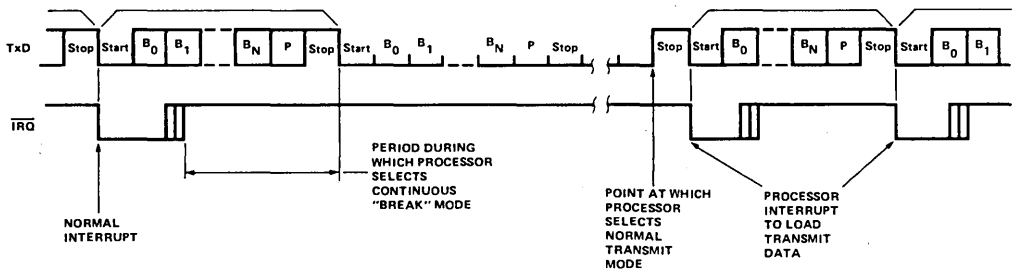

Figure 4-12. TRANSMIT CONTINUOUS "BREAK"
4.1.12 Transmit Continuous "BREAK" (Figure 4-12)